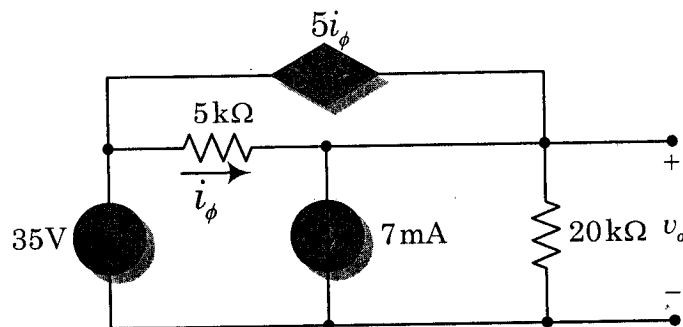

Figure Q4(a)
- Use the principle of superposition to find the voltage v_o in the circuit shown in Figure Q4(a).
b) For the circuit shown in Figure Q4(b):
- Use the mesh-current method to find the branch currents i_a , i_b , i_c , i_d , and i_e , in the circuit shown in Figure Q4(b).